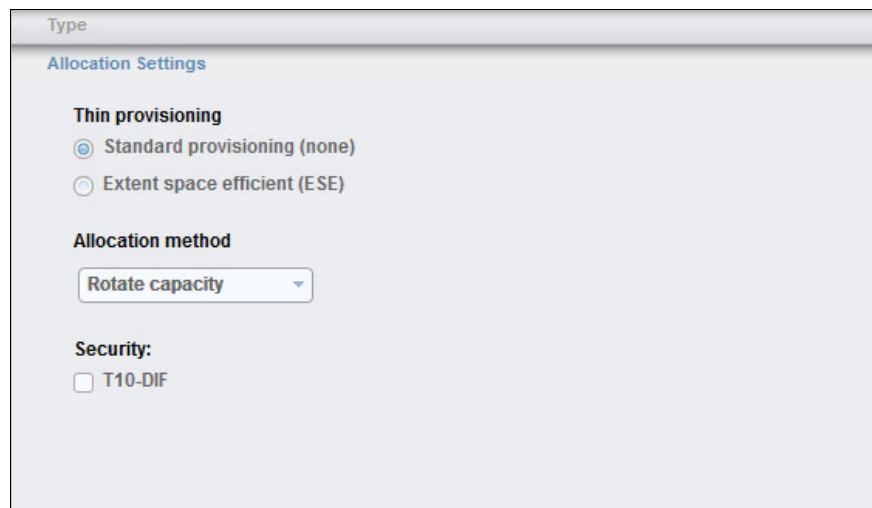

Figure 11-55 Advanced: FB volume creation: Allocation method
3. Select the option that you want, then click **Allocation Settings** to open the Allocation Settings window that is shown in Figure 11-55.
3. Select the type of thin provisioning (**Standard provisioning (none)** or **Extent space efficient (ESE)**), as shown in Figure 11-55 on page 318.